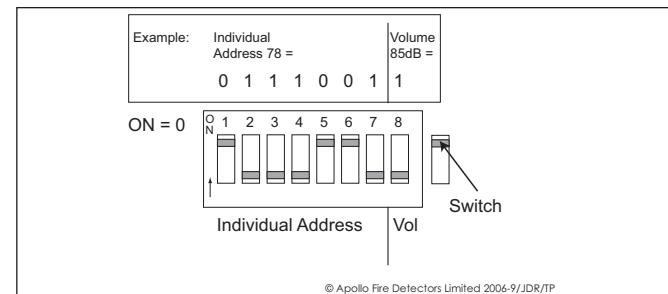

Fig 2
The address of the base sounder is set using seven segments of the eight-segment DIL switch (Fig 2). Segments 1-7 of the switch are set to "1" or "0" (ON), using a small screwdriver or similar tool. A complete list of address settings is shown below.